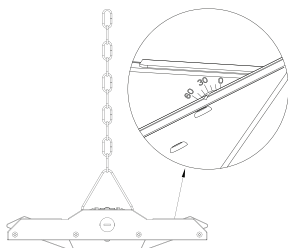

Figure 2
- Step4. After the fixture is installed, adjust the lighting direction of the module according to your needs (145 ° maximum adjustment from left to right). (Figure 2)